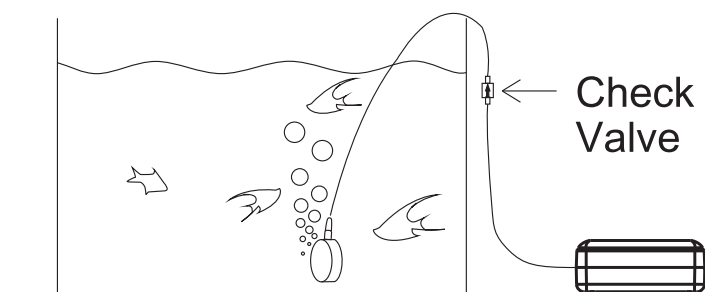

Figure 5
- ⑤ If the air pump is to be placed below the water level, a check valve must be installed to prevent water from flowing back into the pump and causing damage (as shown in Figure 5).